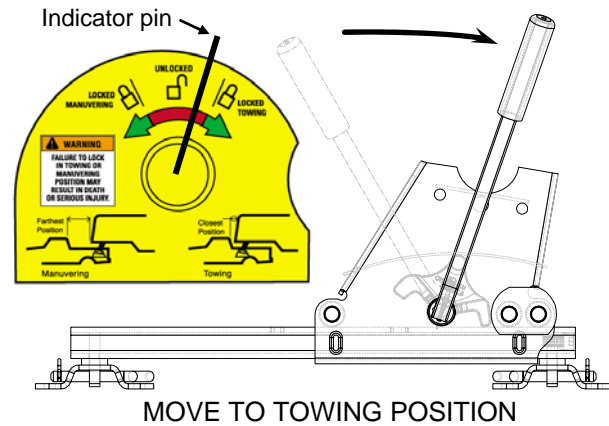
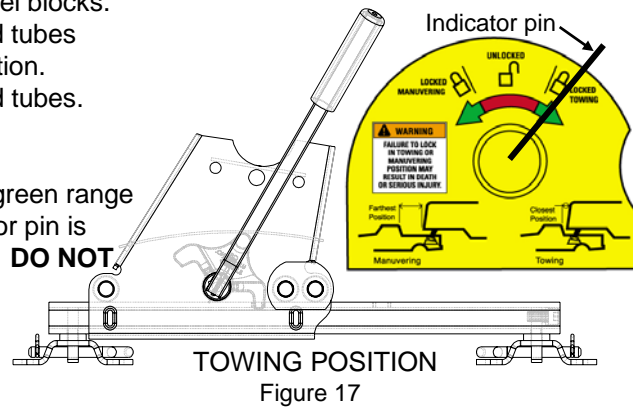

Figure 16
Figure 17
5. Push handle rearward (see figure 16). Indicator pin should be over red unlocked range near the green locked towing range (see figure 16). Spring pressure will press latch against top of tube, the latch will lock into slot when the 5TH WHEEL KWIK-SLIDE moves to the towing position (see figure 17).
6. Return to truck. Release emergency brake. Manually engage trailer brake and back truck rearward until 5TH WHEEL KWIK-SLIDE stops at the welded foot (figure 12) and latch engages in towing position (see figure 17).
9. Examine warning label. Indicator pin should now be over the green range on the right side of the warning label (see figure 17). If indicator pin is over red range on warning label, latch has not engaged tubes. **DO NOT TOW!** Repeat steps 1 - 7 above.